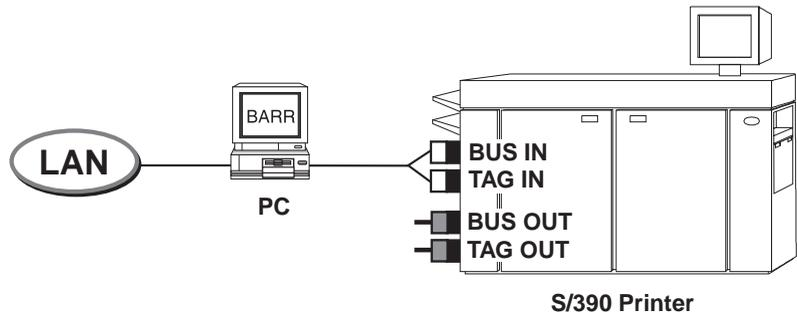

Figure 1-5. BARR/SPOOL with PRINT370 routes data from the LAN to S/390 channel printers.
- BARR/SPOOL with PRINT370 connects your printers to the LAN only (see Figure 1-5).